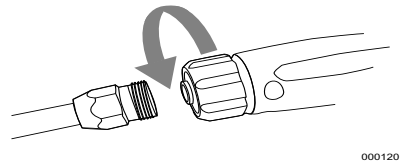

Figure 2-11. Connect Lance
- See Figure 2-11. Connect lance to spray gun and hand-tighten.